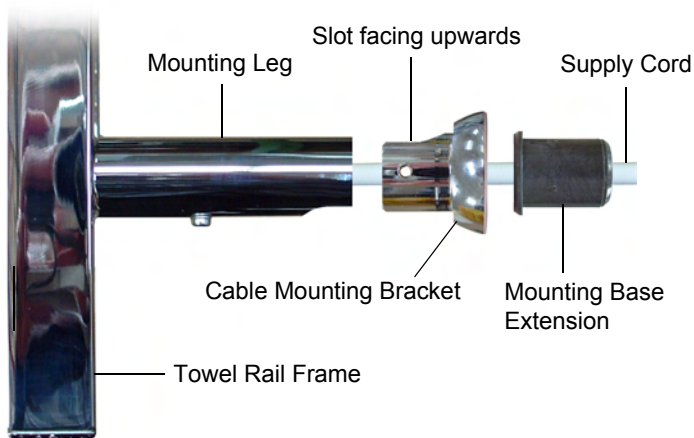

Figure 4: Concealed Supply Cord Installation
4. Feed the Supply Cord through the centre of the Cable Mounting Bracket (see Figure 4 above).